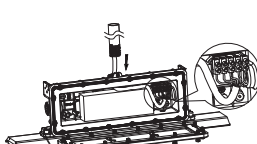

Figure 15
2. Pass the wire in the threaded pipe through the hole and connect to the wire of the terminal accordingly (Figure 15).